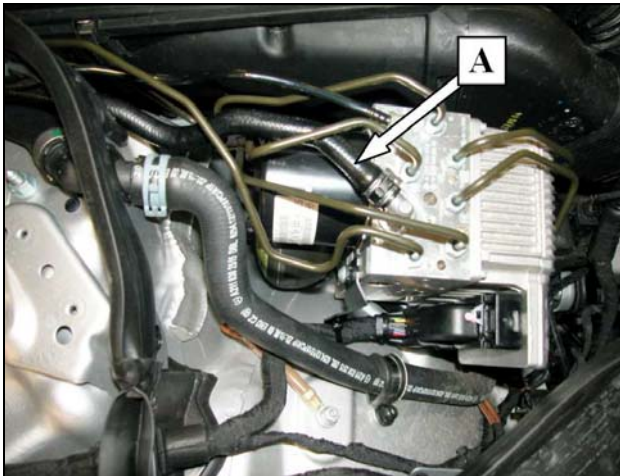

Figure 1
- Replace the suction hose (Figure 1, A) by unfastening the hose clamp at the connection between the suction hose and suction line (Figure 2) and carefully pull the suction hose off the suction line using a mounting wedge.